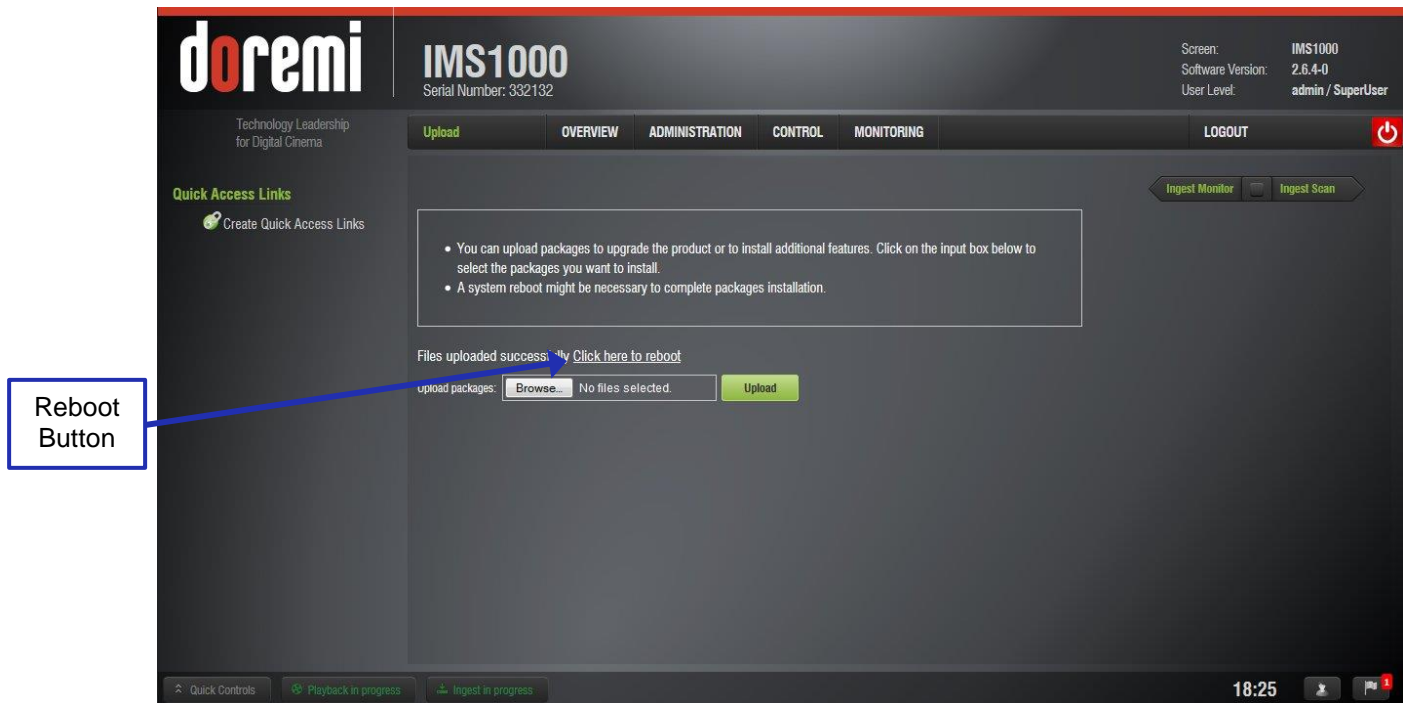

Figure 281: Upload Reboot
- When the file has been uploaded, you may be prompted to reboot the unit. Click the Reboot button (Figure 281).